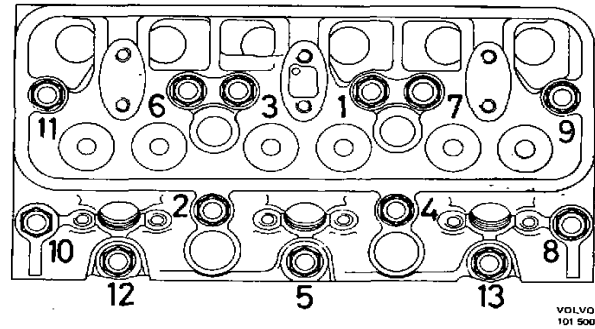
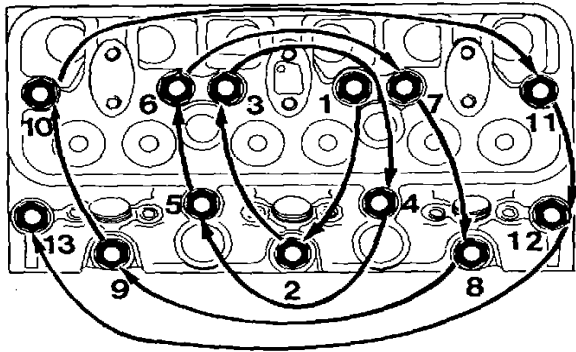

Fig. 49. Tightening sequence, 60 series
Fig. 50. Tightening sequence, 70 series
6. Torque the cylinder head bolts in stages as shown in the tightening sequence, fig. 49 for the 60 series, fig. 50 for the 70 series. The 70 series are also to be angle tightened.